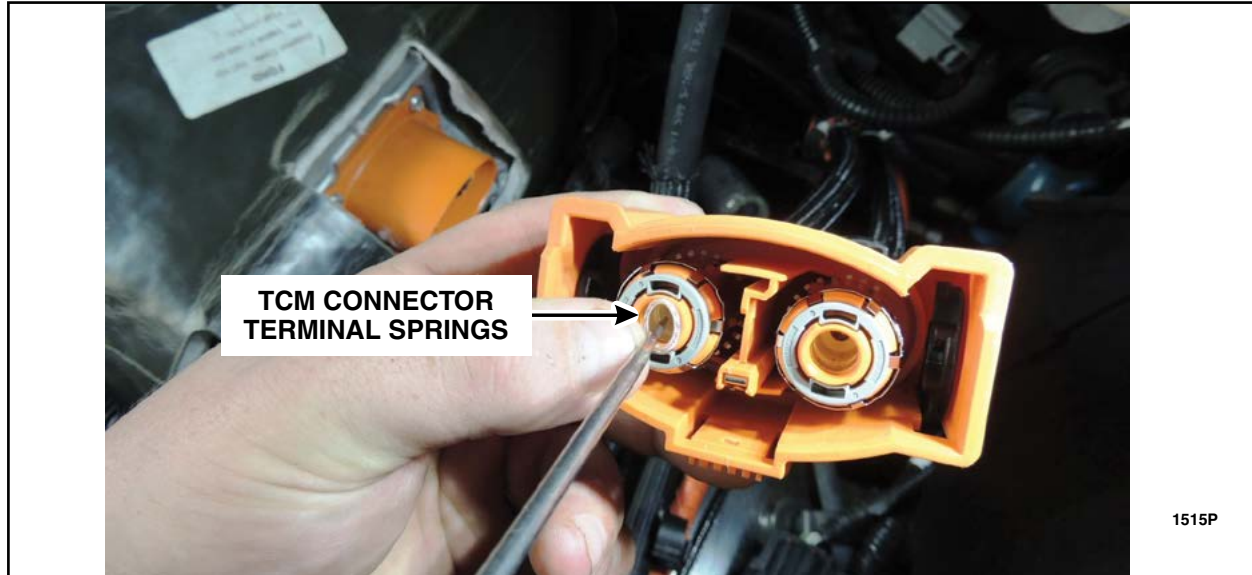

FIGURE 7
6. Remove the four TCM connector terminal springs using a terminal release tool, pick or bent paper clip. Each TCM terminal contains two springs. See Figure 7.